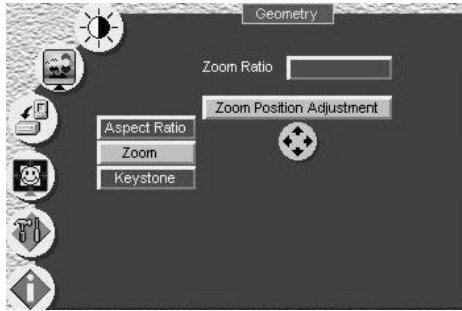

Figure 33: Geometry (Zoom Position Adjustment) Screen
- Using the OSD Menu buttons (see Figure 33)3